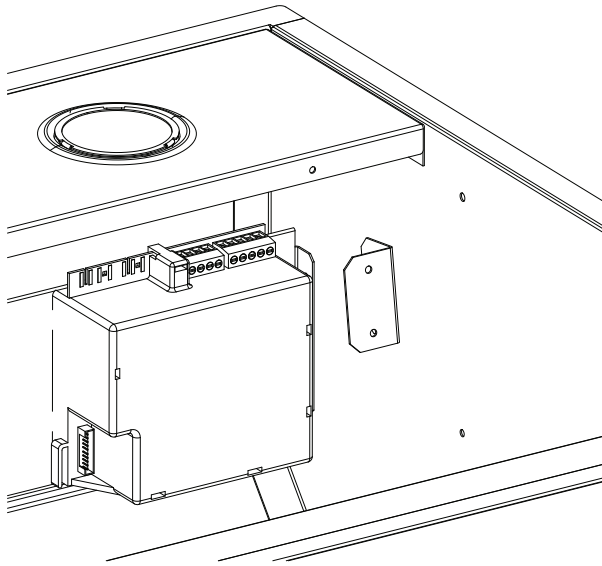

Figure 16: Relay Board Hookup
- Unplug harness from the remote control to the relay board (*Figure 16*).
(Figure 16).